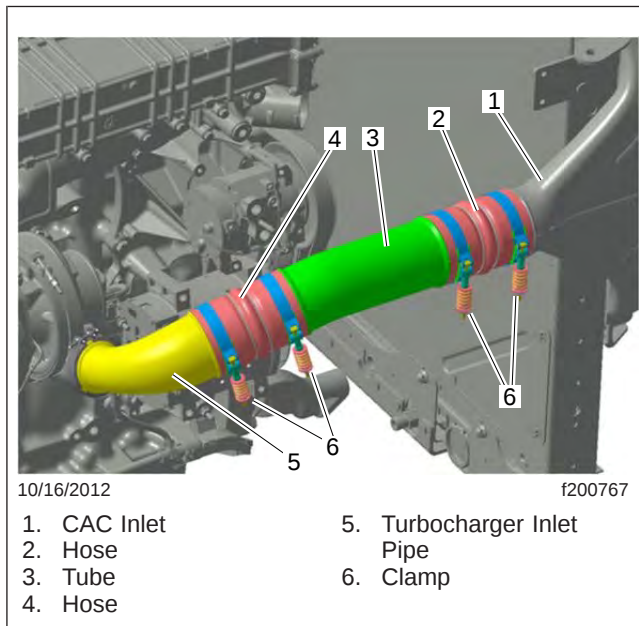

Fig. 2, CAC Plumbing, Turbocharger-to-CAC
5. Remove the charge air cooler (CAC) plumbing at the turbocharger outlet and the CAC inlet. See Fig. 2.
33. Install the CAC plumbing at the turbocharger outlet and the CAC inlet. See Fig. 2.